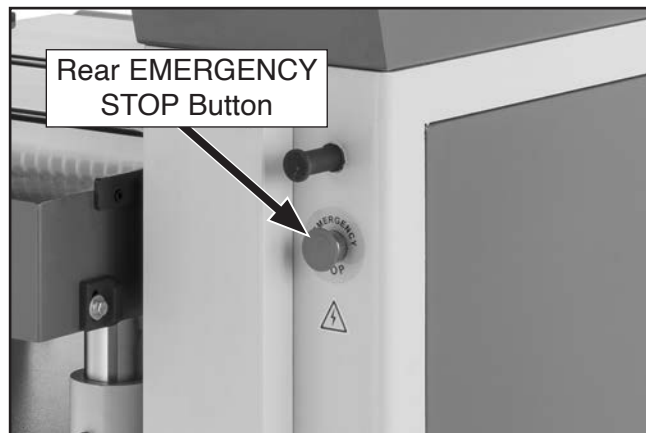

Figure 47. Location of rear EMERGENCY STOP button.
20. Repeat **Steps 16–18** for rear EMERGENCY STOP button (see **Figure 47**).